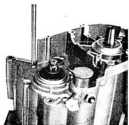

Fig. 4-14-1
- 1) Remove the pan head screws from the left crankcase. (Fig. 4-14-1)